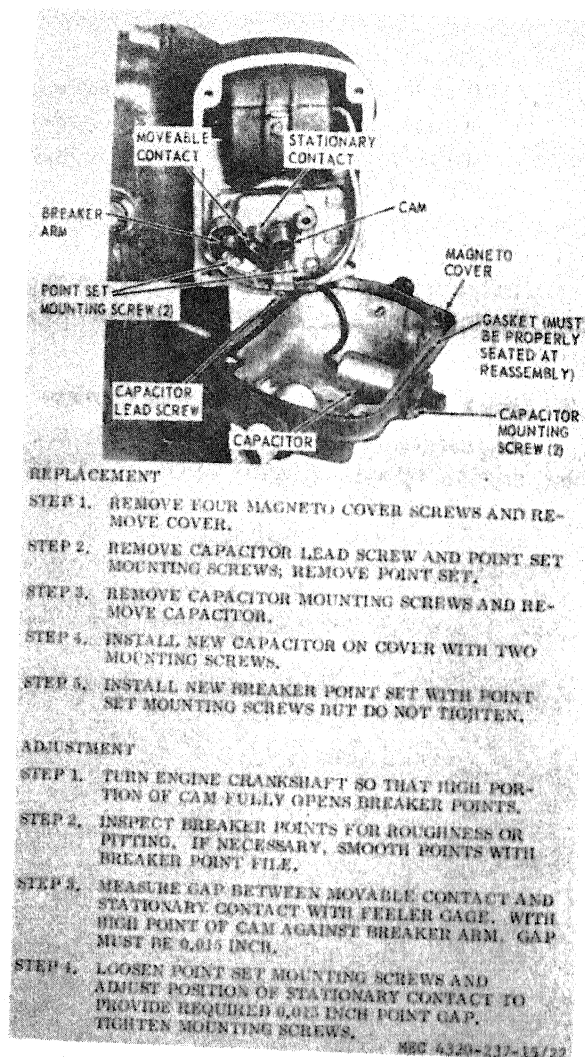

Figure 22. Magneto breaker point, replacement and adjustment.
a. *Magneto Breaker Point Replacement.* Refer to figure 22 and replace magneto breaker points and capacitor.